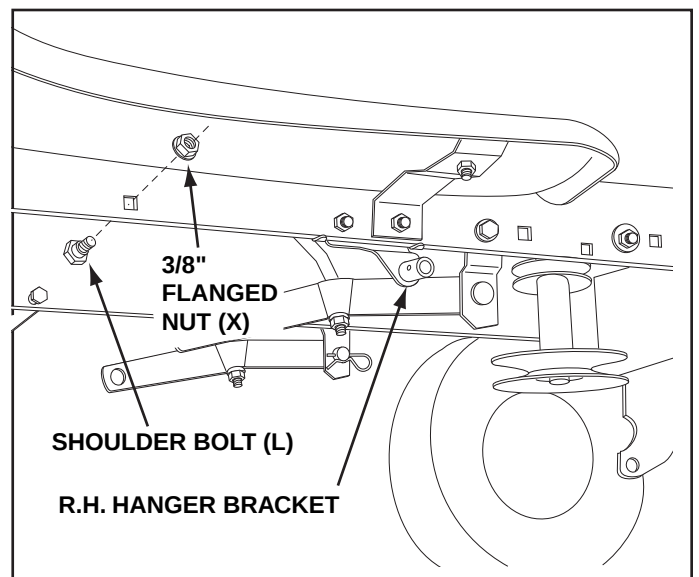

FIGURE 28
STEP 28: (SEE FIGURE 28)
- Assemble a shoulder bolt (L) and 3/8" flanged nut (X) to the R.H. side of the tractor frame, using the first empty hole to the rear of the R.H. hanger bracket. Bolt goes on inside of frame.